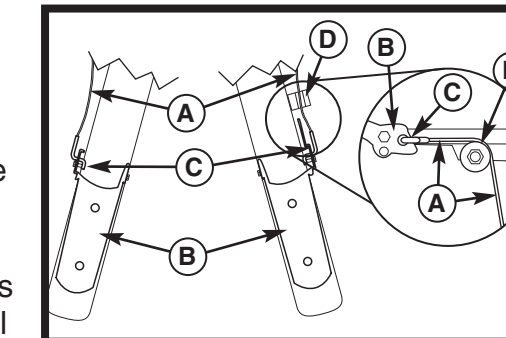

Figure 13
- Check control lever cables (A, Figure 13). Check the "Z" bend ends (C) of the control cables (A) are secured in the holes on the control levers (B) as shown. Check that the cables (A) are not kinked and have freedom of movement. Check that the auger cable, right side, (A, Figure 13) is on top of cable button (D) as show.